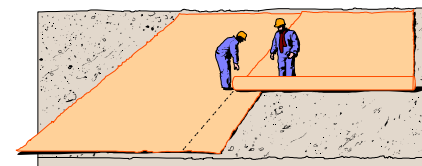

Figure 6 Geotextile Placement
- The geotextile shall be installed in accordance with Manufacturer's recommendations including overlaps. The overlap shall be based on sub grade CBR and AASHTO M288 requirements. Refer to Figure 6.